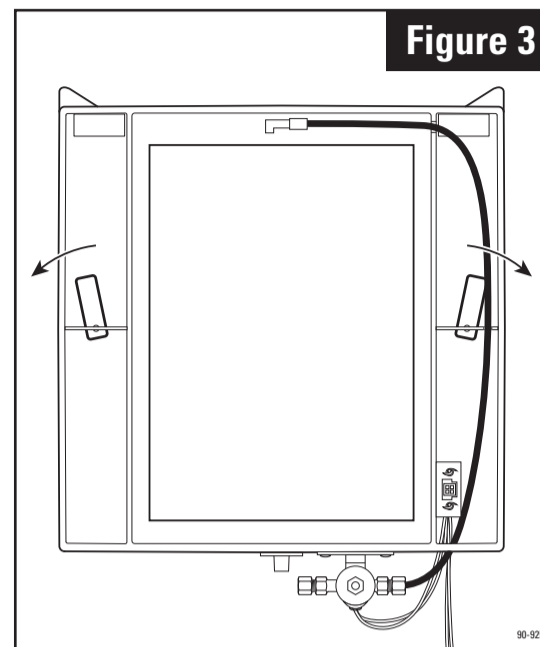

Figure 3
4. While pressing the base against the plenum, reach through the center opening and turn left and right swing latches down to secure the base onto the plenum. (See Figure 3)
5. Reinstall the evaporative assembly into the base, with the bottom of the scale control insert (5) sitting firmly in the inside of the drain spud attached to the base. Push the evaporative assembly in at the top between the retaining ribs that hold the assembly in place in a vertical position. Reinstall cover assembly by hooking at the top of base assembly and latching at the bottom.